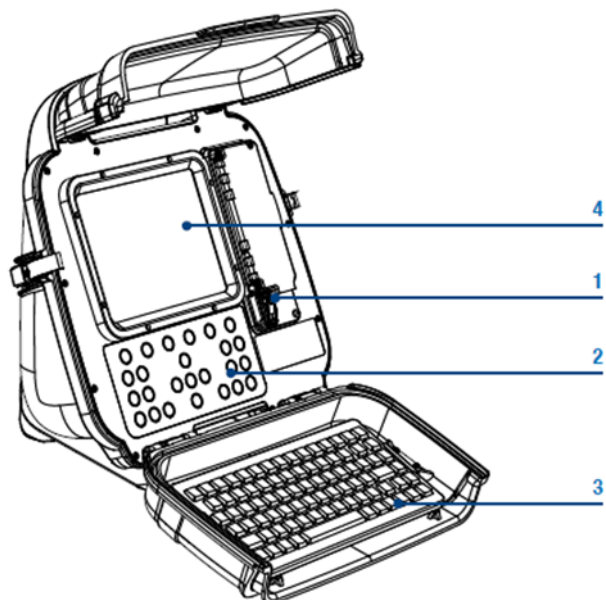

Figure 2.1: Controller Module
See Figures 2.1 to 2.3
- Ensure the On/Off switch (item 1 in Figure 2.1) is set to the Off position.